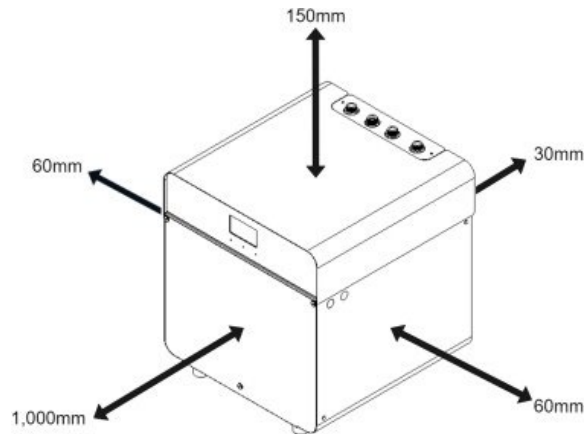

Figure 24. Heat Pump Clearance
- The GSHP is easily accessible for inspection, operation. Space should be allowed to provide access to service and exchange the heat pump, refer to **Figure 24**.